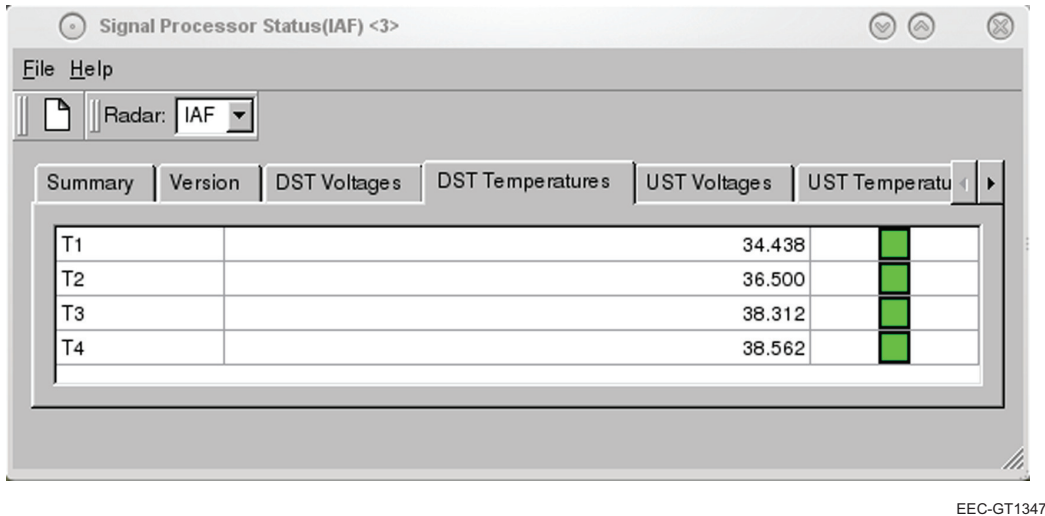

Figure 5. Signal Processor Status DST Temperature Tab
4. On the DST Temperature Tab, verify temperatures for the DST Processor are below 70° Celsius and LEDs are lit green. See Figure 5.